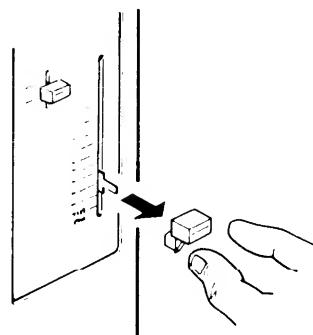

Fig. 36
- a) Pull off the thermostat knob. Fig. 36